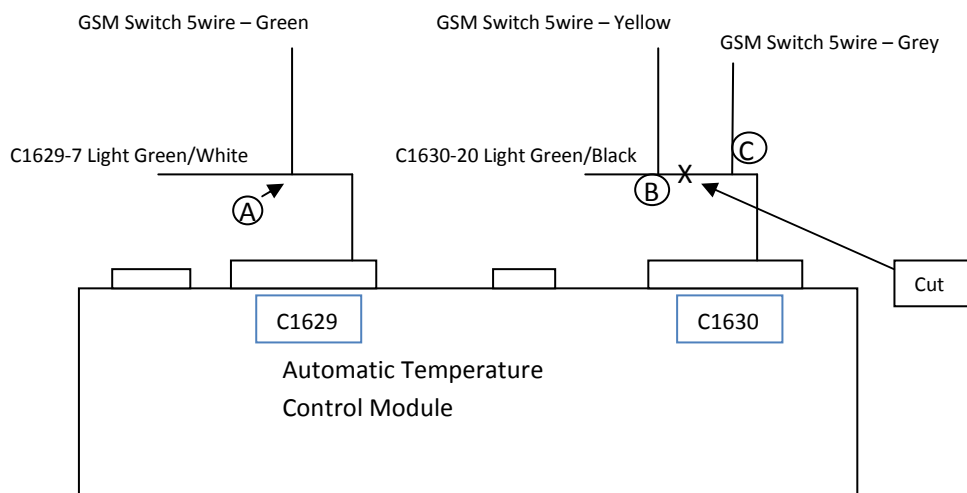

Figure 4
4, Connect the 9 pin connector 5 wire harness (see Figure 4). All of the wires go to the Automatic Temperature Control Module:
1, **Green wire** goes to connector C1629 pin7 wire (light green/white). This wire has to be tapped and joined with **green** wire. Figure 4 (A).
2, **Yellow wire** goes to C1630 pin20 wire (light green/black). The car original wire has to be cut and the wire which goes to inside the car has to be joined with **yellow wire**. Figure 4 (B).
3, **Grey wire** goes to C1630 pin20 wire (see above). The cut wire, which goes to the connector, has to be joined with **grey wire**. Figure 4 (C).